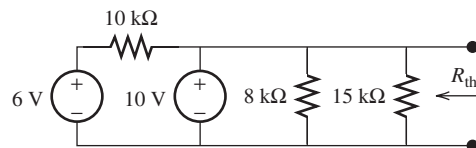

FIGURE P3.53 Circuit for Problem 3.53.
3.53 (B)* Find the Thévenin resistance for the circuit in Figure P3.53: